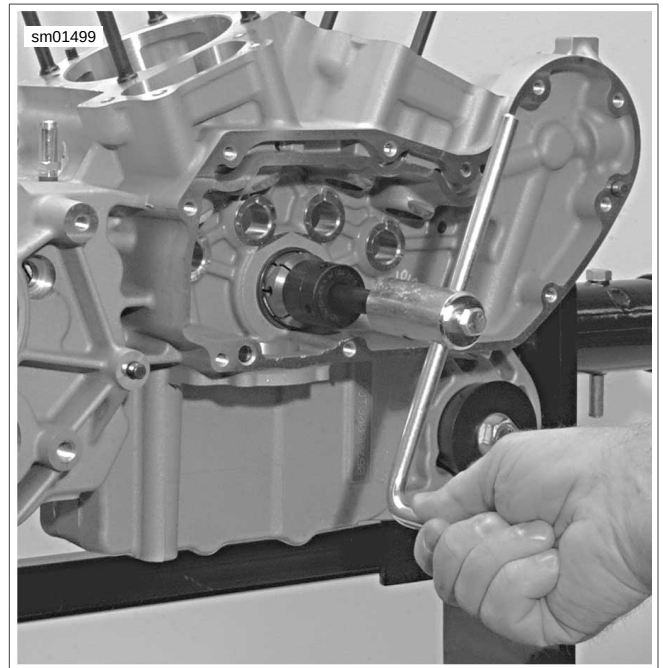

Figure 3-164. Lapping Pinion Shaft Main Bearing
1. See Figure 3-164. Obtain CRANKCASE MAIN BEARING LAPPING TOOL (Part No. HD-96710-40C). Assemble CRANKCASE MAIN BEARING LAP (Part No. HD-96718-87) to lapping handle.